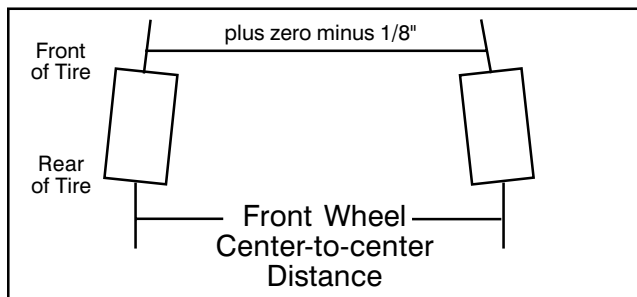

FIG. 28
1. While the vehicle is unloaded, measure center-to-center distance (axle height) at front and rear of steering tires. Front measurement must be equal to the rear measurement plus zero minus 1/8 inch. (FIG. 28)